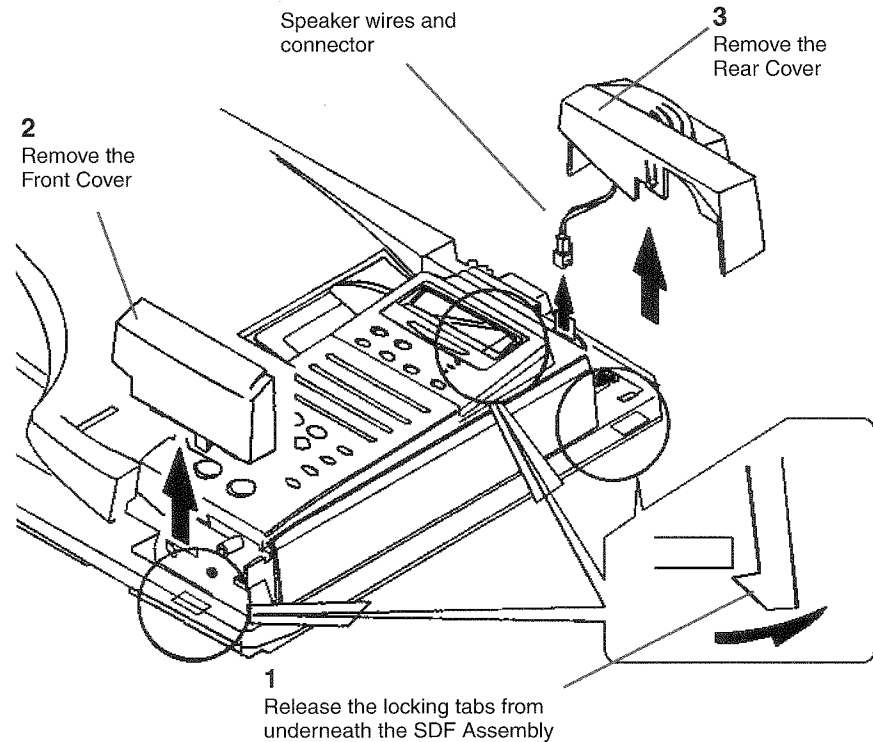

Figure 1 Removing the Covers
1. (Figure 1): Remove the Front Cover and the Rear Cover.